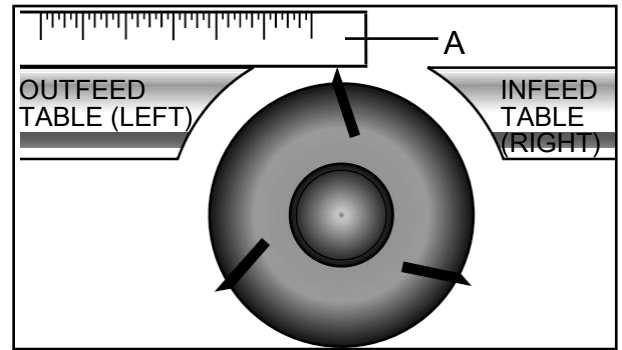

Fig. 5
3. Set a straightedge (A, Fig. 5 & 6) onto the outfeed table so that it sits over the cutterhead but does not completely cross the gap between the tables and do not touch the infeed table.